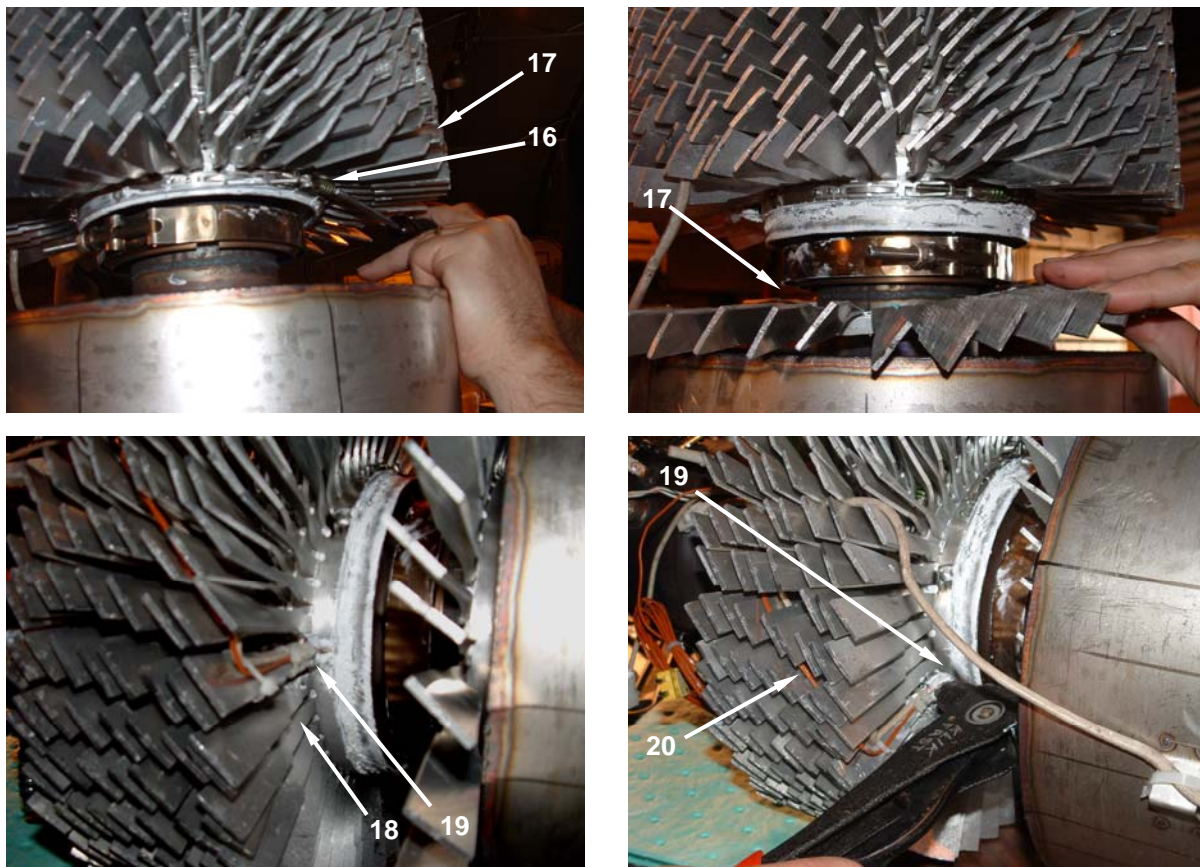

Figure 7. Replace Fin Temperature Sensor – Install Replacement Sensor.
10. Loosen the clamping screw (**Figure 7, Item 16**) retaining the lowest fin ring (**Figure 7, Item 17**), and gently remove the fin ring from the TEG.
11. Locate the holed fin (**Figure 7, Item 18**) adjacent to the fin temperature sensor (**Figure 7, Item 19**).
12. Place the replacement fin temperature sensor (**Figure 7, Item 19**) on the fin (**Figure 7, Item 18**), and retain in place with a rivet.
13. Cut the modular connector from the existing fin temperature sensor (**Figure 7, Item 19**).
14. Route the fin temperature sensor wire (**Figure 7, Item 20**) alongside the existing wire, and retain in place with tie wraps. Trim the excess from the tie wraps after tightening.
15. Install the fin ring (**Figure 7, Item 17**) onto the TEG, making sure that the clamp screw (**Figure 7, Item 16**) is staggered from that on the next ring.
16. Tighten the clamp screw (**Figure 7, Item 16**) to retain the fin ring (**Figure 7, Item 17**) in place by bottoming the clamp screw, then backing it out two turns.